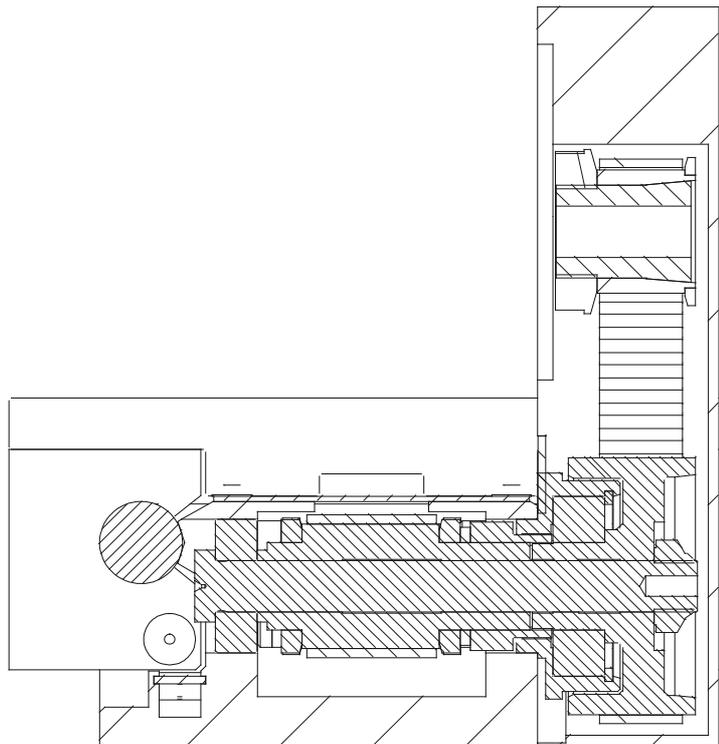

Figure 28: Cut view drive set module 105
- Push out the drive set by loosening the four attachment screws one by one (see *Figure 28, bottom*).